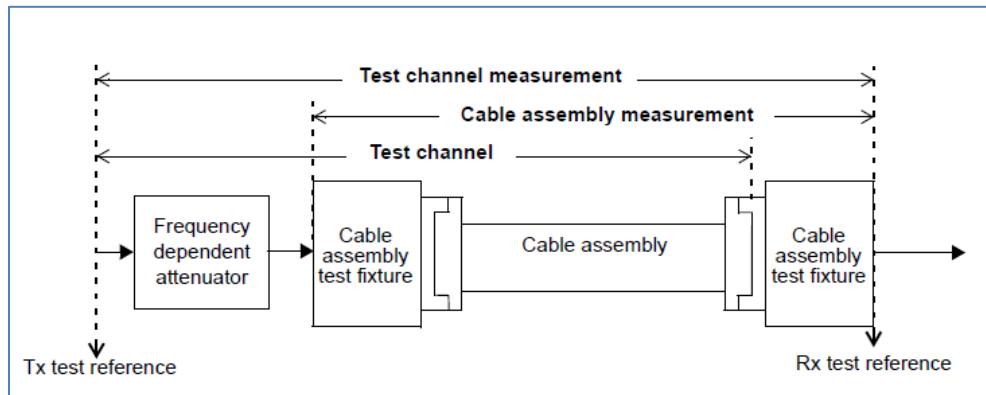

FIGURE 44. TEST CHANNEL CALIBRATION CONNECTION DIAGRAM (AS REFERENCED FROM IEEE802.3CK STANDARD FIGURE 110-3B)
1. Based on the following connections as shown in Figure 44 below, measure the characteristics of each test channel lane using a vector network analyzer.